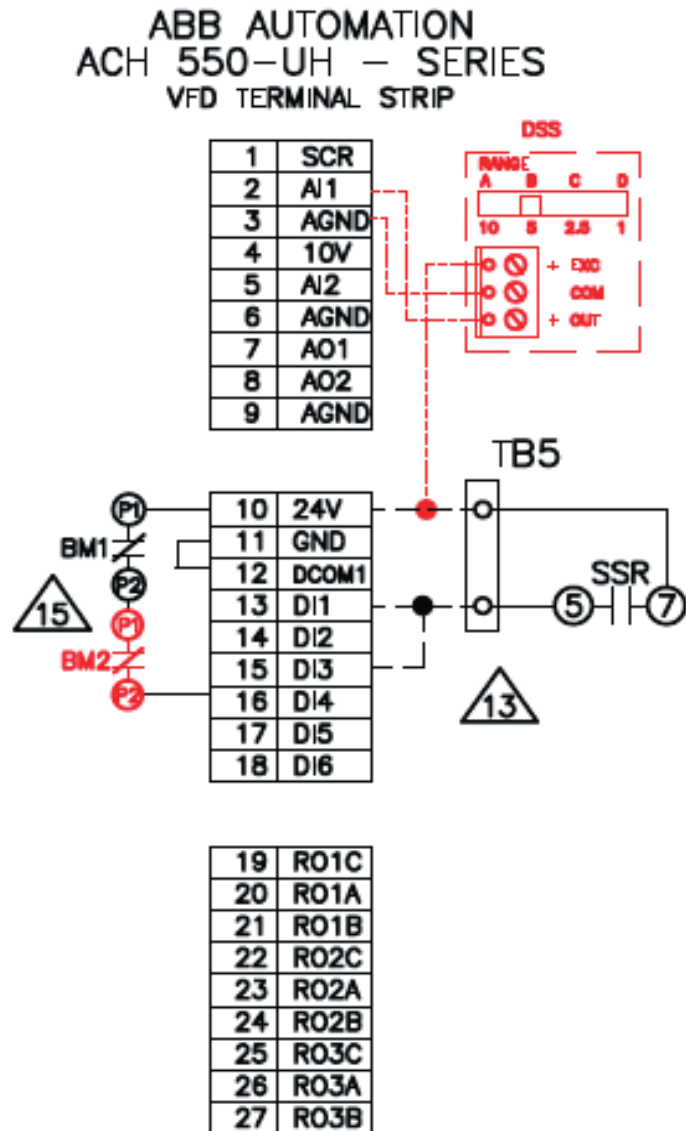

Fig. 5 — Duct Pressure VFD Control and Low Voltage Connections, 50HQP Units
2. Make field wiring connections between VFD control terminals AI1 (terminal #2), AGND (terminal #3) and 24V (terminal #10) and the remote Duct Static Sensor (DSS) located in the supply airflow ductwork. See Fig. 5.
3. Make field wiring connections between VFD control terminals 24V (terminal #10), DI1 (terminal #13), DI3 (terminal #15) and Terminal Block 5 (TB5) located in the electrical control box. See Fig. 5.